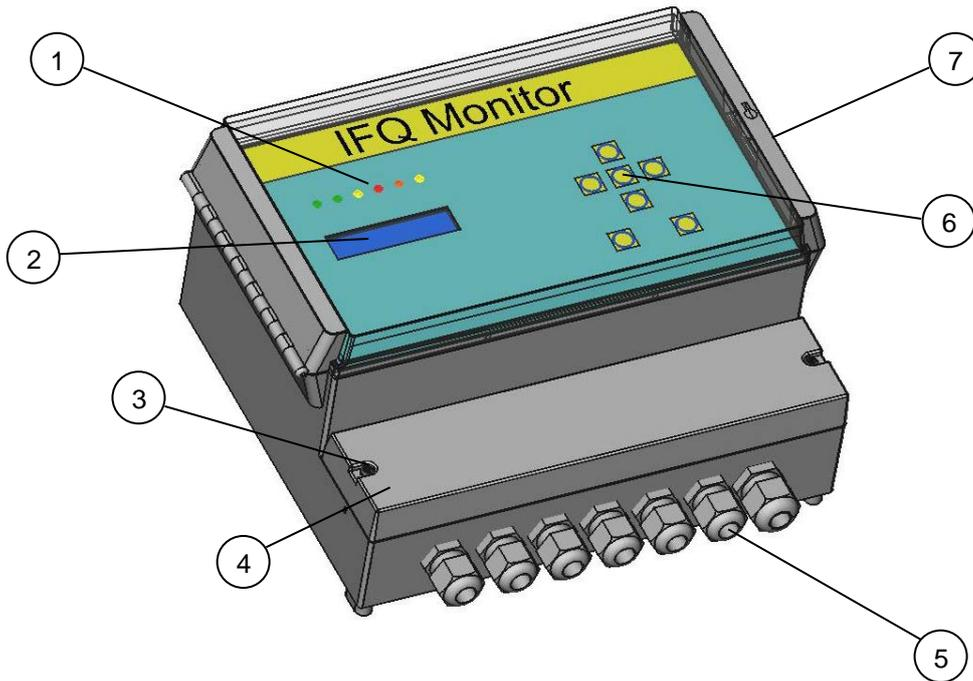

Figure 1: IFQ Monitor features
Refer to Figure 1 for the IFQ Monitor panel features
5. Remove the bottom cover (Figure 1 on page - 7 -), mark the mounting holes positions and drill the appropriate-sized holes at the marked locations.
1. Remove the bottom cover (Figure 1 on page - 7 -).
2. Screw off the cover attachment screws (Figure 1 on page - 7 -) in order to access the connection chamber.
3. Insert the cable(s) through the cable glands (Figure 1 on page - 7 -).